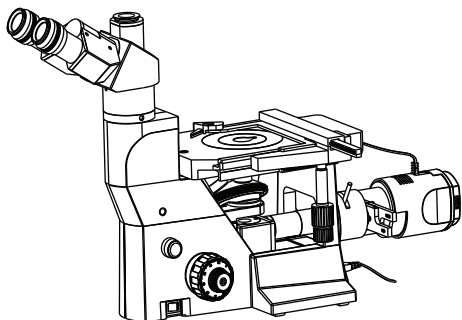

Fig. 1
2. To avoid potential electrical hazards when replacing halogen bulb, turn the microscopes main switch to the OFF position and disconnect power cord from wall outlet in advance. Whenever you replace your microscope bulb, allow lamp socket and bulb to cool before touching (Fig. 1).